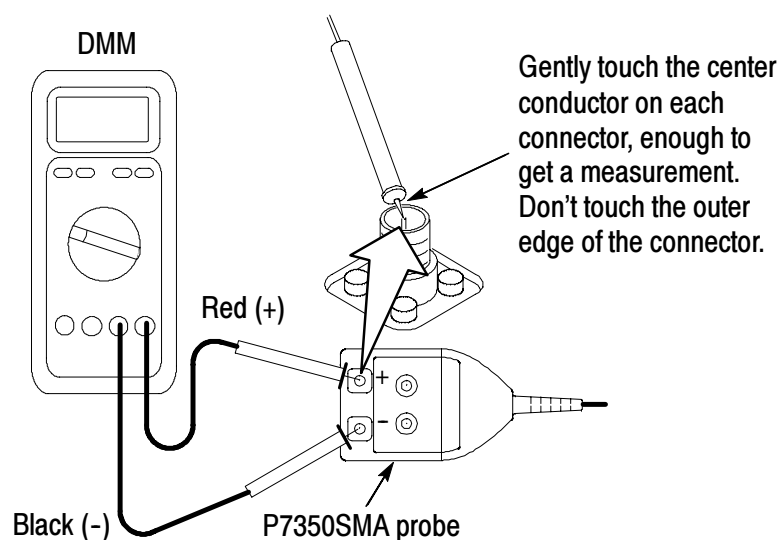

Figure 27: Checking differential mode input resistance
2. Probe the center contacts of the SMA input connectors as shown in Figure 27.